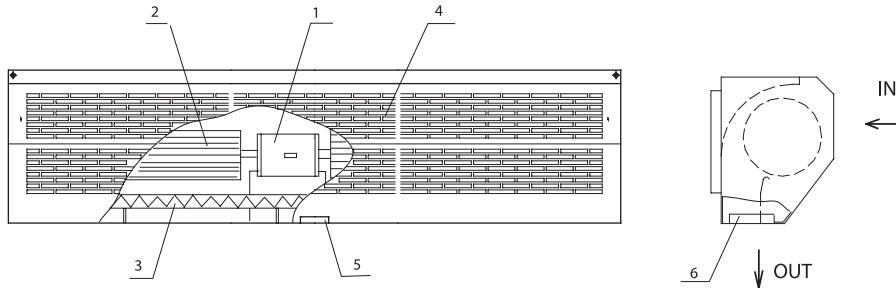

Figure 1. Air Curtain assembly
4.1 The wind wheel with electromotor and heater (PTC type) or spiral heater (tubular type) are installed in metal cabinet of Air Curtain (Fig.1).